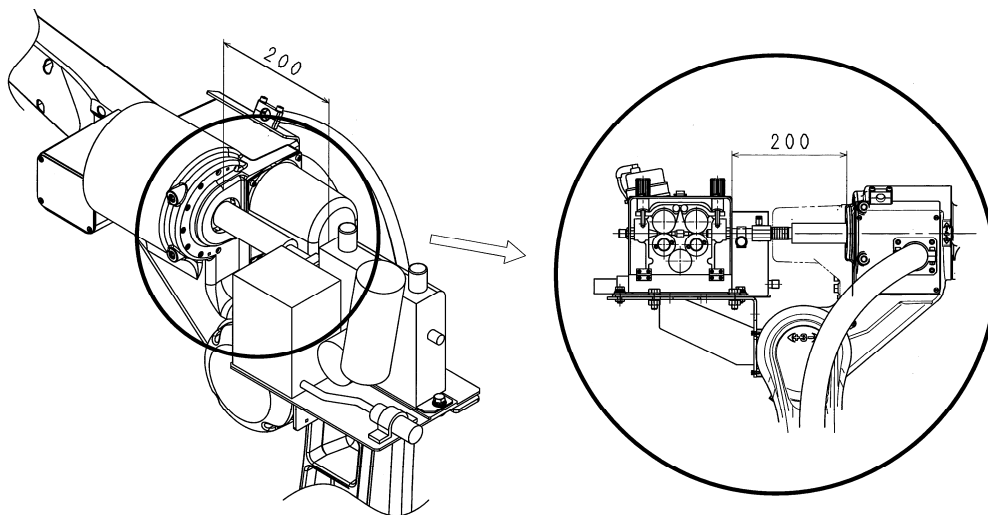

Figure 2.17 Fixing position of wire feeder (manufactured by ABCOL BINZEL)
4. Move the wire feeder backward, pull the all-in-one power cable so that it does not have slack, arrange it in the position shown in the Figure 2.17, and fix it using two hexagon head bolts (M10×30).